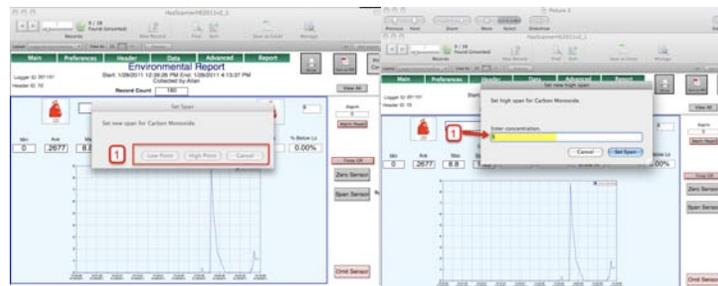

figure 1
- Use the button next to the sensor to zero (1) or Span (2).
- When you select 'Span' a sensor you can set the 'Low point' or 'High point' for calibration. (figure 1 #1) When you select the low point, the sensor spans are adjusted to keep the slope of the calibration curve the same. When you set the high point, the slope is readjusted to the new reference. Always set the low point first when doing a full calibration.
- Wait 5 minutes or more until the sensor value stabilizes (3).